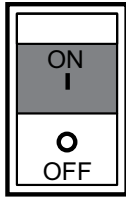

Figure 51. Circuit Breaker ON (GFCI Test)
4. Place main circuit breaker, (Figure 51) in the **ON** position within 5 seconds after pressing the **RESET** button on the GFCI sensing module.